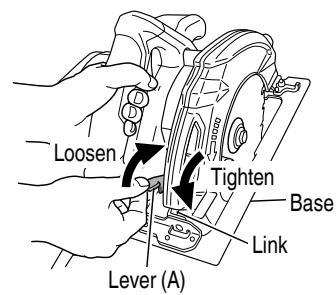
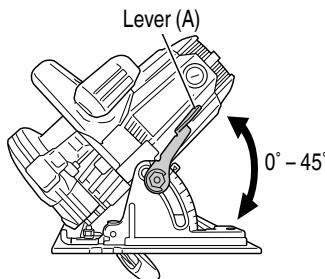

Fig. 7
Fig. 8
7. Check if lever (A)s are tightened.
If the lever (A) to adjust cutting depth (Fig. 7) and lever (A) to adjust angle of inclination (Fig. 8) are loose, injury can result. Make sure that they are tightened securely.
1. Adjusting the cutting depth (Fig. 7)
As shown in Fig. 8 by loosing the lever (A) on the bevel scale, the saw blade may be inclined to an angle of 45° in relation to the base.